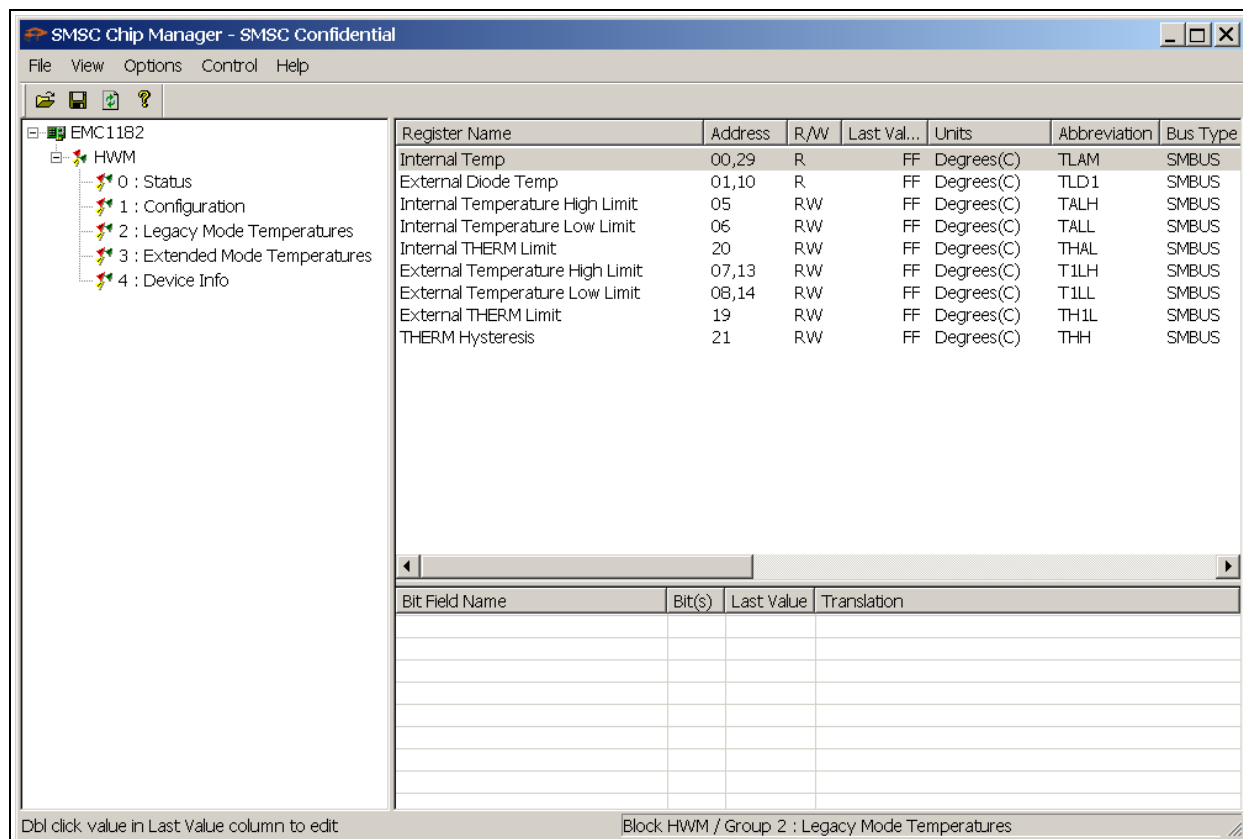

FIGURE 2-9: Chip Manager Register Groups.
11. From the Chip Manager main menu, ensure that Options > Auto refresh Registers is checked. In the left panel, click the hardware monitor (HWM) to expand the content, then select any of the register groups, as shown in Figure 2-9. The USB Activity LED on the board starts blinking when any of the register groups are selected. The register values are automatically updated every second when the Auto Refresh option is on.